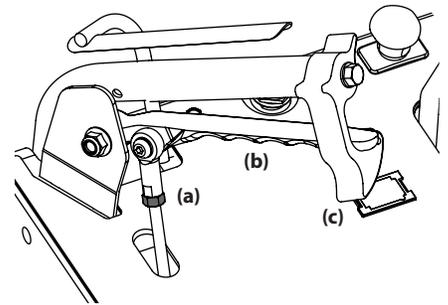

Figure 4-24
6. Loosen the jam nut (a) and adjust the rod until the steering lever (b) is seated in the neutral lock lever (c). See Figure 4-24.